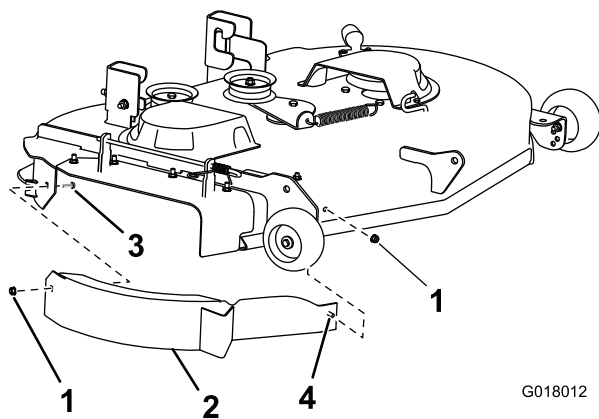

Figure 26
6. Remove the baffle assembly to the right side of the mower deck with a carriage bolt (5/16 x 3/4 inch) and 2 flange nuts (5/16 inch) as shown in Figure 26.